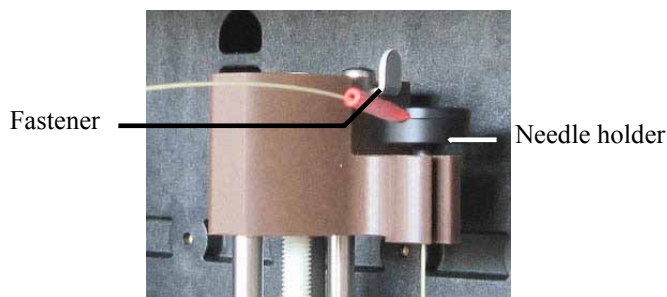

Fig. 48: Needle fastener
3. At the end of the wash cycle, observe how the needle pair descends into the wash port. The needle should descend correctly into the port (→ Fig. 49) while the needle holder should remain in the position shown in Fig. 48.